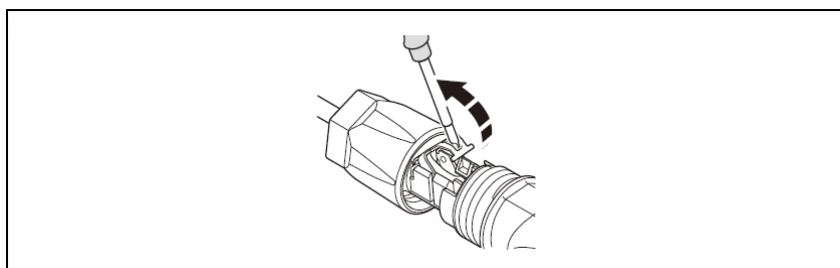

Figure 5-11
- 3) Open spring using a screwdriver (Figure 5-11).